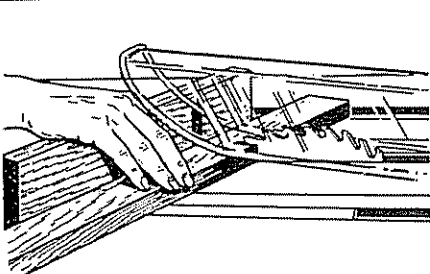

Figure 67
- Miters are crosscuts at an angle to the edge of the work. (See figure 67.) The miter gauge is set at the required angle to make the cut. Here also, precautions must be taken to prevent creep.